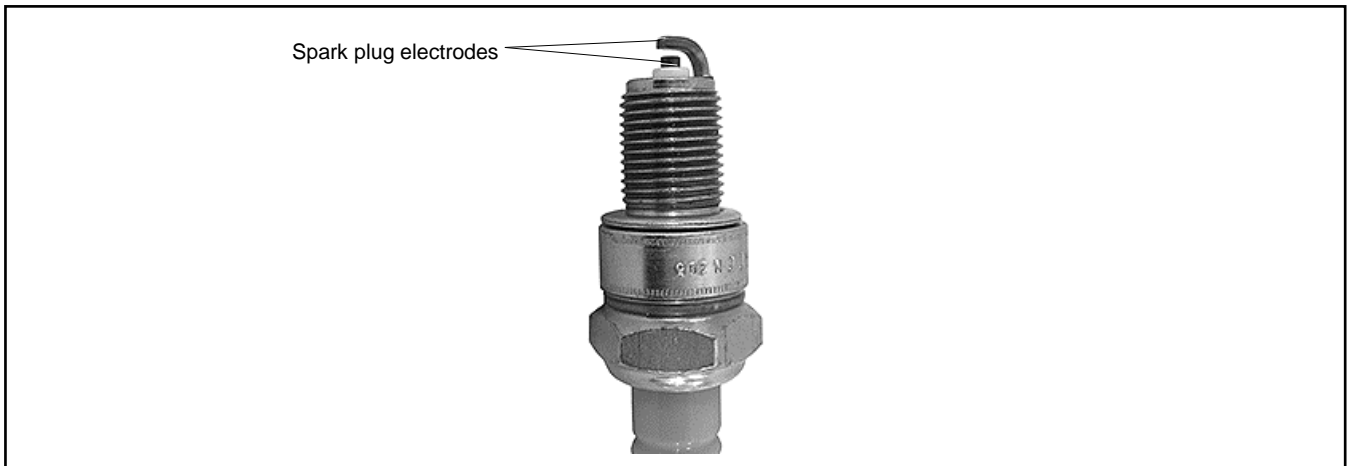

Figure 17 Spark Plug Electrodes
6. Inspect the electrodes on each spark plug. See Figure 17. The electrodes should be light brown. If the electrode appears to be burned, covered with soot, or fouled with oil, replace the spark plug.